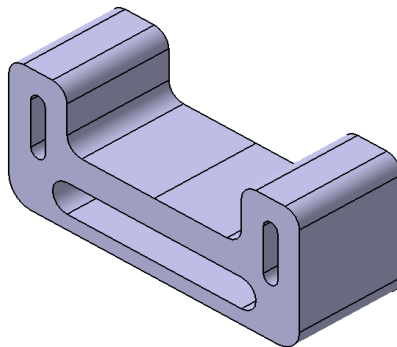
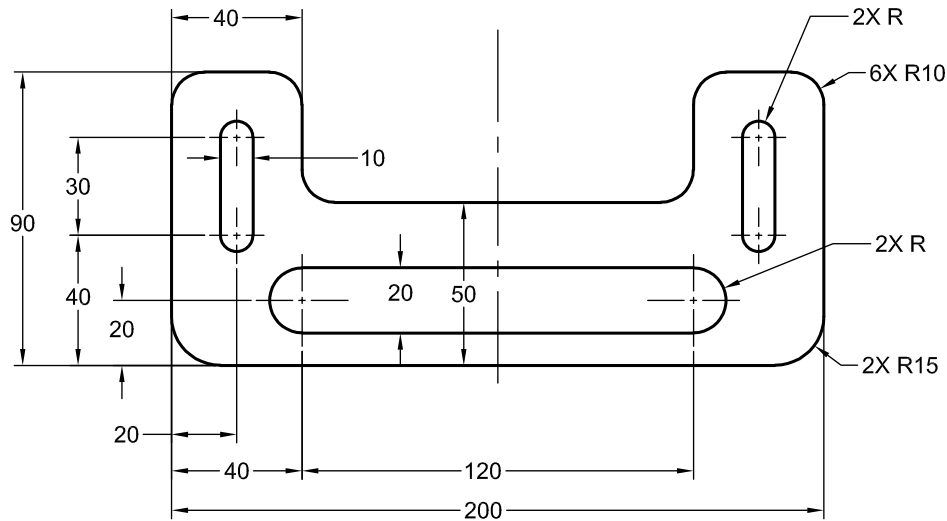

Figure 3-58 The model for Tutorial 3
Figure 3-59 The sketch of the model for Tutorial 3
In this tutorial, you will draw the sketch of the model shown in Figure 3-58. The sketch is shown in Figure 3-59. Do not dimension the sketch. The solid model and its dimensions are given only for your reference.
11. Similarly, fillet other corners of the sketch with a radius value 10, refer to Figure 3-59.